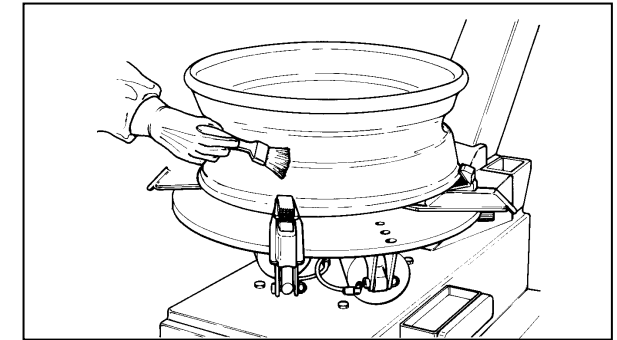

Fig. 15
A. Lubricate the entire rim surface (Fig.15).
A. Lubrifier toute la surface de la jante (Fig.15).